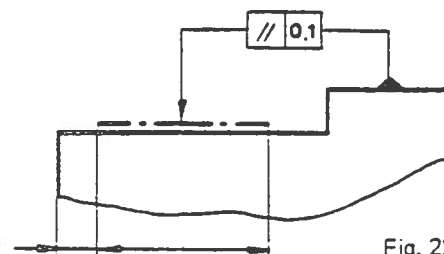

Fig. 22
- 4.7 If the tolerance is applied to a restricted part of the feature only, this should be dimensioned as shown in Figure 22 (analogous with N 001.043.70 clause 2.5).